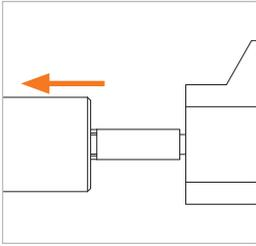
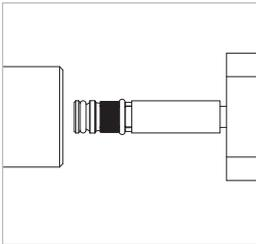

Figure 5
Figure 6
- ▶ Pressurize the pilot pressure line. The clamping jaws (Pos. 3) close together, the connection to the test piece is released and the test piece can be removed straight backwards (*Figure 5* and *Figure 6*).